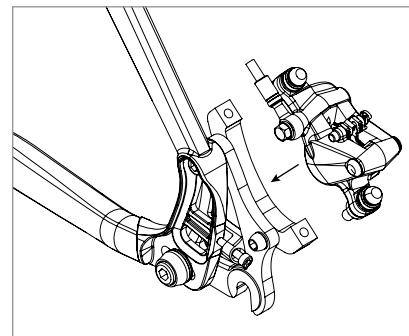

Figure 6
4. Install the rear brake caliper and rear wheel, then align and secure the brake caliper to the rotor per the brake manufacturer's instructions (FIG 6).